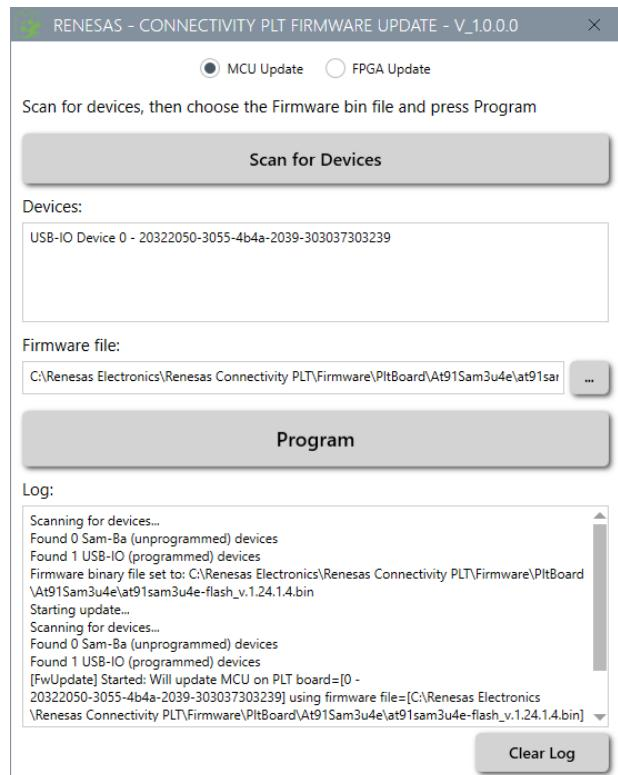

Figure 135. Firmware update - Programming
4. Click **Program**. See Figure 134 and Figure 135.